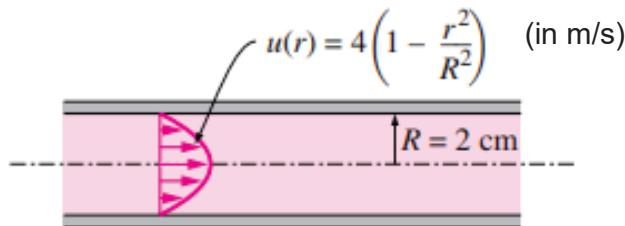

Figure 2 / Rajah 2
- (b). The velocity profile in fully-developed laminar flow in a circular pipe is given by  $u(r) = u_{\max}(1 - r^2/R^2)$ . Determine (i) maximum velocity, (ii) average velocity, and (iii) volume flow rate in a pipe with inner radius,  $R = 2$  cm as shown in Figure 2.